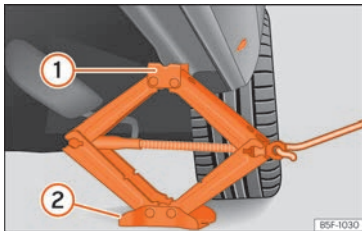

Fig. 46 Cross member: positioning the jack on the vehicle.
- Turn the jack crank handle, located below the strut support point, to raise it until the tab ① »» **Fig. 46** is below the housing provided.
- Align the jack so that tab ① “grips” onto the housing provided on the strut and the mobile base ② is resting on the ground. The base plate ② should fall vertically with respect to the support point ①.